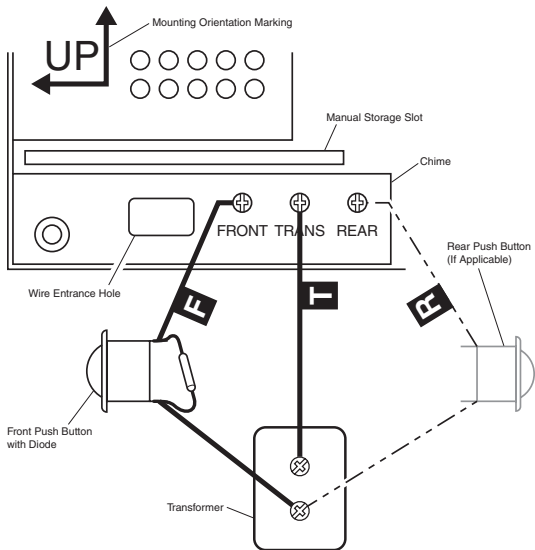

Figure 2
10. Connect wire "F" to screw terminal marked "FRONT". Connect wire "T" to screw terminal marked "TRANS". Connect wire "R" to screw terminal marked "REAR" (See Figure 2).